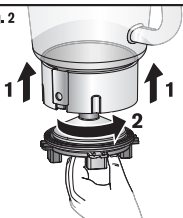

fig. 3
- Place the blender jug assembly **(E)** on the motor unit **(A)**. The blender jug can be placed in two positions: jug handle to the right or the left of the motor unit **(Fig. 3)**.
- To lock and unlock the blade unit easily, you can use the lid and the arrow lock position. **(Fig. 3, 4, 5)**